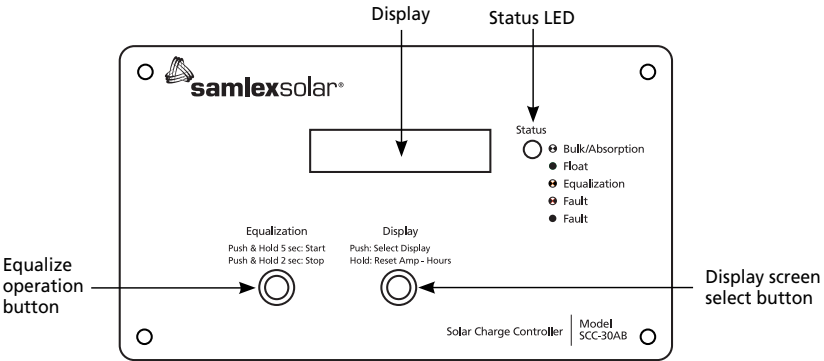
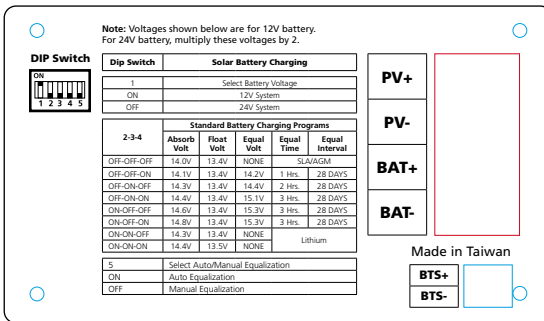
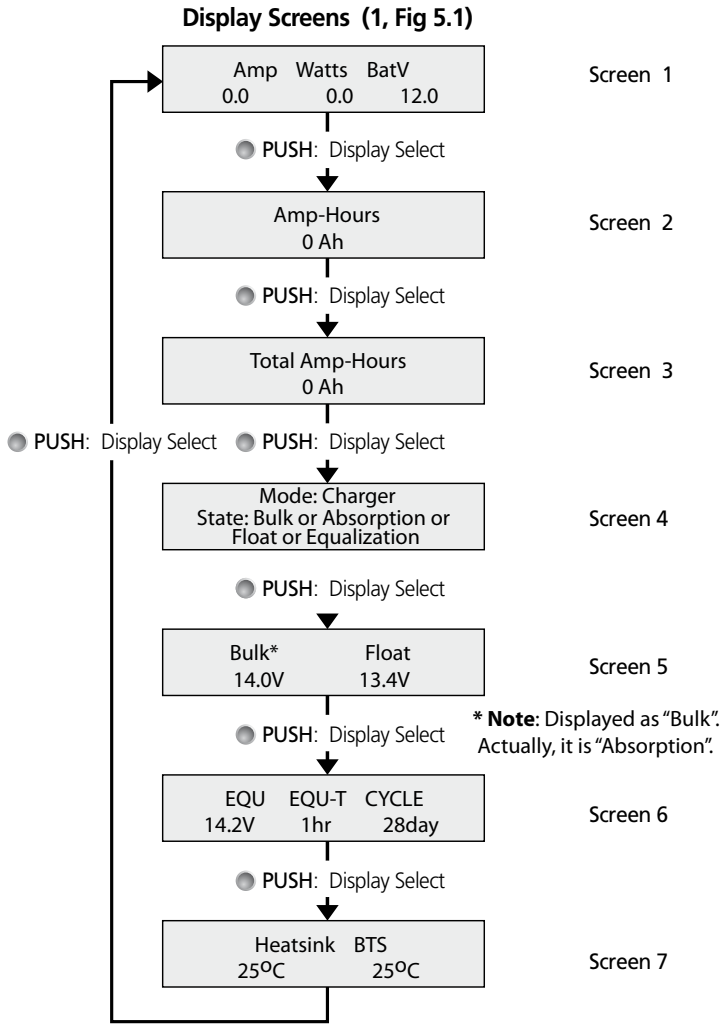

Fig. 5.1. Front Panel of SCC-30AB
Fig. 5.2. Back view of SCC-30AB
Fig. 5.3. LCD Display Flow
Equalization is carried out either automatically after every 28 days or manually when desired. Equalization Voltage Regulation Sets Points and Equalization Time / Interval will depend upon the type of battery being charged and can be programmed with the help of DIP Switches 2,3,4 located at the back of the unit (Fig 5.2). Voltage regulation Set Points will depend upon the type of battery being charged. This information is available as follows:
- At the back of the unit - Fig 5.2
Automatic equalization after interval of 28 days or manual equalization can be selected with the help of DIP Switch 5 located at the back of the unit (Fig 5.2).
When manual equalization is selected, equalization can be started and stopped manually with the help of Equalization Button on the front panel of the unit (Fig 5.1). Please see under heading "Push Buttons", Table 5.2 on page 30 for manual ON / OFF procedure.
- Screen 6 displays the set Equalization Voltage (under EQU), the Equalization Time (under EQU-T) and 28 day period (under CYCLE) pertaining to one of the 6 options of battery types that has been selected with the help of DIP Switches 2, 3, 4 (Fig 5.2 and Table 6.1)
Automatic equalization after interval of 28 days or manual equalization can be selected with the help of DIP Switch 5 located at the back of the unit (Fig 5.2). Please refer to Fig 4.1B.
During this stage, LCD Screen 4 (Fig 5.3) displays " State: Equalization". LCD Screen 6 (Fig 5.3) displays the programmed Equalization parameters. Screen 1 (Fig 5.3) shows the programmed value of Equalization Voltage Regulation Set Point "Ve" under "BatV". The Status LED on the front panel will blink ORANGE, once per second.
NOTE: During Equalization Stage, if the load current is more than the current from the solar panel, the battery voltage will drop. If the battery voltage drops around 1V below the Equalization Transition Voltage Set Point "Ve" for around 1 min, the controller reverts to Bulk Stage with 100% Duty Cycle. The LCD Screen 4 (Fig 5.3) will still display "State: Equalization" and the front panel Status LED will still be blinking Orange. It will revert to PWM when the battery voltage reaches Equalization Transition Voltage Set Point "Ve" and is sustained for a minimum period of around 50 to 55 sec.
Stage 3: Float Stage. The controller enters this stage from the previous Equalization Stage at point "D1" after the battery voltage is held at the programmed Equalization Voltage Regulation Set Point "Ve" for continuous or cumulative period of 1/2/3 Hour. During this stage (Curve portion "D1" to "E1"), the Switch operates under PWM control by feeding pulsing Short Circuit Current "Isc" with very low Duty Cycle of 0% to < 10% to keep the battery voltage constant at the Float Voltage Regulation Set Point "Vf". During this stage, the battery is 100% charged and a very low "Trickle Charge" of around 0.1% of the Ah Capacity is required to be fed to the battery to compensate for self-discharge. The battery can be left at this stage for prolonged period of time. During this stage, the LCD Screen 4 (Fig 5.3) displays "State: Float". Screen 5 (Fig 5.3) displays the programmed Float Voltage Regulation Set Point (Displayed on the screen under "Float").
NOTE: During Float Stage, if the load current is more than the current from the solar panel, the battery voltage will drop. If the battery voltage drops around 1V below the Float Voltage Regulation Set Point "Vf" continuously for around 1 hour, the controller reverts to Bulk Stage and the LCD Screen 4 (Fig 5.3) changes to "State: Bulk".
Manual equalization can be selected with the help of DIP Switch 5 located at the back of the unit (Fig 5.2).
When manual equalization is selected, equalization can be started and stopped manually with the help of Equalization Button on the front panel of the unit (Fig 5.1).
The controller has provision for temperature compensation with the help of Temperature Sensor. This Temperature Sensor is required to be connected to the terminals marked $\text{BTS}+$ and $\text{BTS}-$ (Fig 5.2).
SCC-30AB is designed for flush mounting on a wall / panel. The controls and indications are built on the Front Panel face plate that has 4 countersunk holes for flush mounting (Fig. 5.1). All the electronics, DIP switches for settings, terminal strip for connections for the PV Array and the Battery and terminal for the Battery Temperature Sensor (BTS) are mounted on a PCB that is in turn mounted at the back of the face plate (Fig. 5.2). For flush mounting on the wall / panel, a suitable cutout is required to be made in the wall / panel to accommodate the PCB at the back of the unit. As the components at the back of the unit will be hidden and protected behind the wall / panel, the components at the back of the unit are exposed and do not have a protective cover. **PLEASE HANDLE THE UNIT CAREFULLY TO PREVENT ANY DAMAGE TO THE EXPOSED COMPONENTS AT THE BACK OF THE UNIT.**
A single, 3-color LED (GREEN, RED, ORANGE) marked "Status" (2, Fig 5.1) is used to indicate charging stages and faults as given below in Table 5.1.
Display (3, Fig 5.1)	Push to change the LCD display screens (Fig. 5.3) Push and hold to reset Amp-Hours.
Equalization (4, Fig. 5.1)	When DIP Switch 5 is set at OFF, hold Restart / Stop Equalization for 5 sec to manually start equalization. Press it for 2 sec to stop equalization.
The LCD Display (1, Fig. 5.1) is a 2 Line, 16 character display with backlighting. The backlighting switches OFF after 30 seconds and switches ON again when any button is pressed. The Push Switch marked "PUSH: Select Display" (3, Fig. 5.1) and "HOLD: Reset Amp Hours" (3, Fig. 5.1) is used to manipulate the LCD functions. Every time the Push Switch is pressed momentarily, the screen display scrolls. The scrolling sequence is shown in Fig. 5.3. Please note that the 7 screens are sequential & are displayed in a continuous loop: 1 - 2 - 3 - 4 - 5 - 6 - 7 - 1 - 2 - 3 and so on (See Fig. 5.3). When selected, Screens 2 to 7 will be displayed for 15 minutes and thereafter, will revert to Screen 1 (Default Screen). Details of information provided in the LCD screens (Fig 5.3) are given below:
The back of the unit (Fig 5.2) has the following input / output connections and DIP Switches for various settings.
As soon as Battery (+) is connected, the Status LED (2, Fig 5.1) will be steady Orange and message "Welcome to Samlex Solar 1.0" will be displayed for around 3 to 5 sec. After this, the LED will blink Green & Screen 1 (Fig 5.3) will be displayed: Amp 0.0; Watt 0.0; BatV="the battery voltage".
- B. Absorption Voltage** This is the Absorption Voltage Regulation Set Point. **Note:** This voltage will be displayed as “Bulk” on Screen 5 of LCD Display (Fig. 5.3).
- C. Float Voltage** This is the Float Voltage Regulation Set Point. It will be displayed in Screen 5 of LCD Display (Fig 5.3).